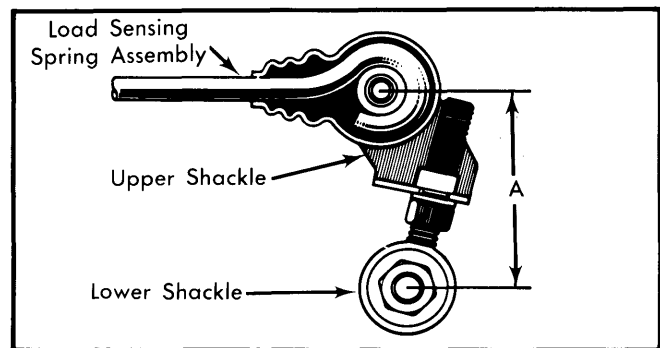

Fig. 2 Adjusting Load Sensing Proportioning Valve
3) To adjust load sensing proportioning valve, adjust length of the lower shackle. See Fig. 2. If rear pressure was low, lengthen the distance "A" shown in Fig. 2. If rear pressure was high, shorten the distance. Repeat procedure and check pressure readings.